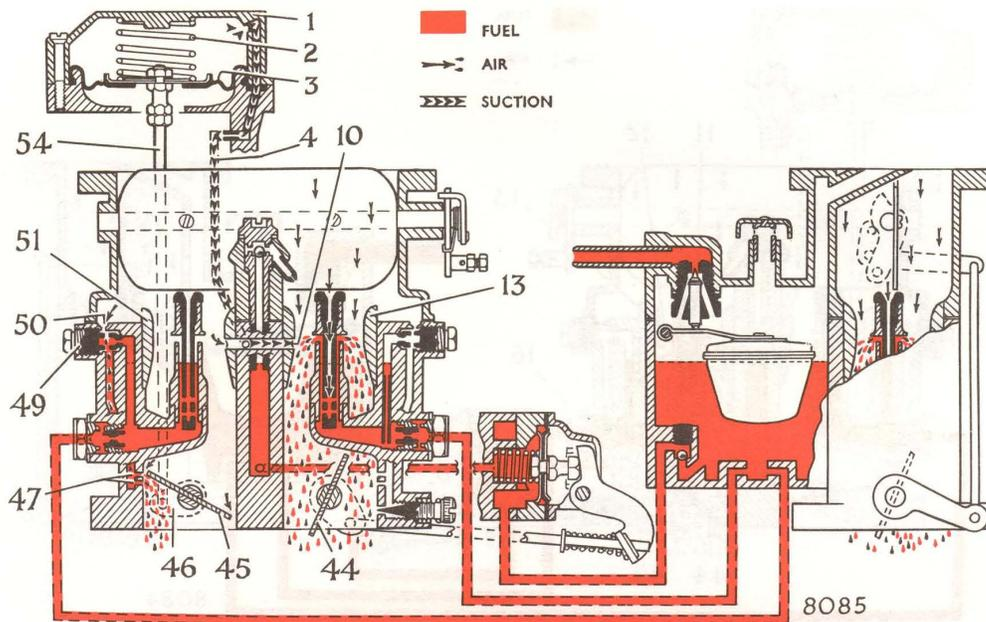

Fig. 8. Secondary throttle coming into operation
See Figs. 8, 9 and 10
Figs. 8 and 9. It consists of a diaphragm housing (1), diaphragm (3), diaphragm return spring (2), and rod (54) that connects the diaphragm by a spring-loaded ball joint connection to the lever (46) on the secondary throttle spindle.